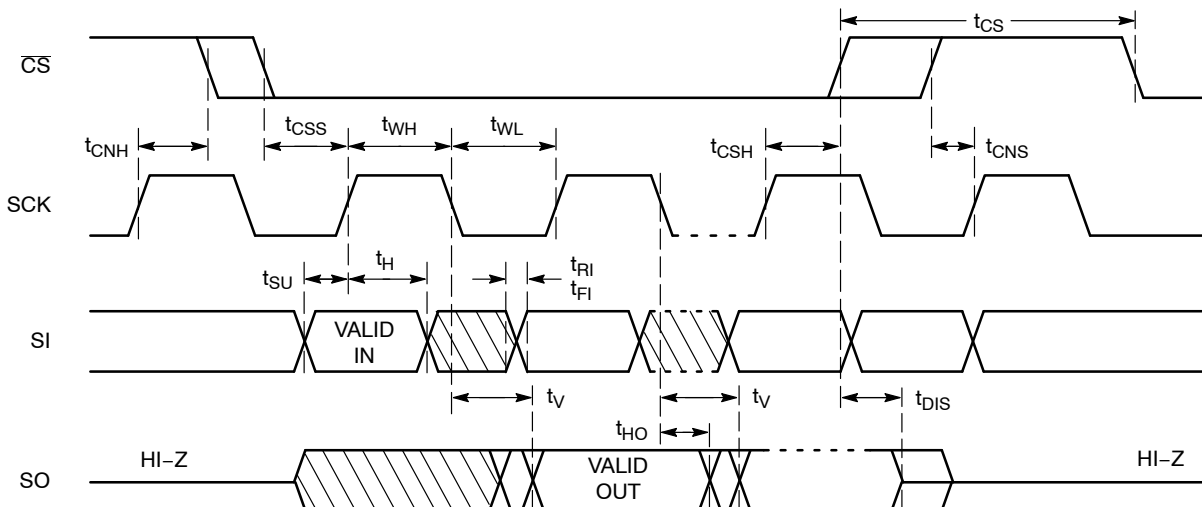

Figure 2. Synchronous Data Timing
8. **All Chip Select (CS) timing parameters are defined relative to the positive clock edge (Figure 2). t_{CSH} timing specification is valid for die revision D and higher. The die revision D is identified by letter "D" or a dedicated marking code on top of the package. For previous product revision (Rev. C) the t_{CSH} is defined relative to the negative clock edge (please refer to data sheet Doc. No. MD-1006 Rev. U)**
After a high to low transition on the $\overline{\text{CS}}$ input pin, the CAT25010/20/40 will accept any one of the six instruction op-codes listed in Table 7 and will ignore all other possible 8-bit combinations. The communication protocol follows the timing from Figure 2.